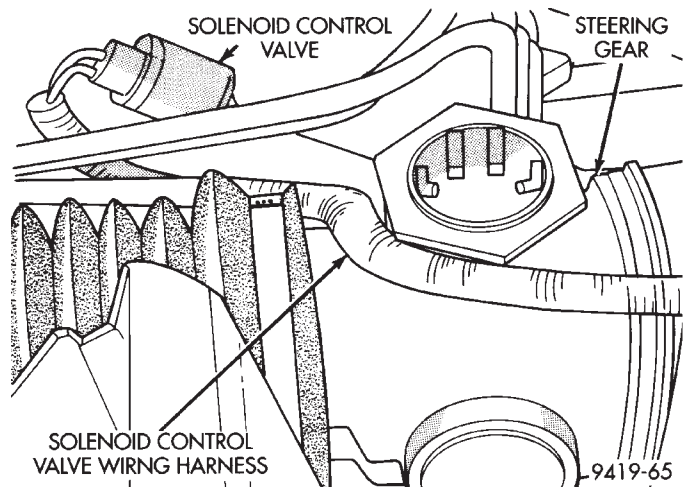

Fig. 12 Solenoid Control Valve Wiring Harness Routing
- (4) Route the wiring harness from the solenoid control valve, under the power steering lines and around the front of the steering gear (Fig. 12).